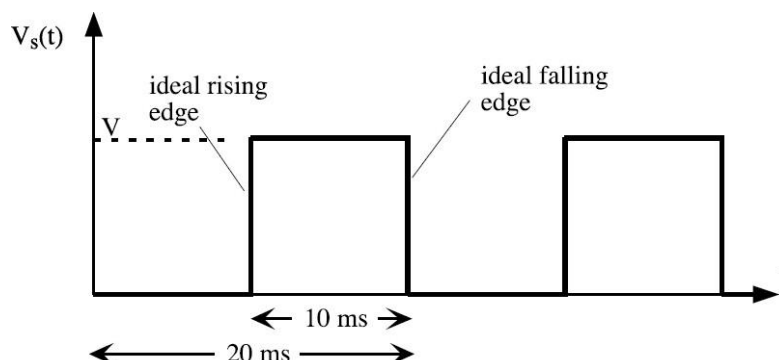

Figure S1.1: A typical and ideal square-wave voltage waveform.
A function generator is to be used as the source of step voltages. The generator should be set up to produce a 50 Hz square wave that has amplitude of V volts during one-half period of the waveform and zero during the other half-period as shown in Figure S1.1. Please ensure that your function generator is set to high impedance (Z) mode. The reasons for this will be discussed in a later lab.